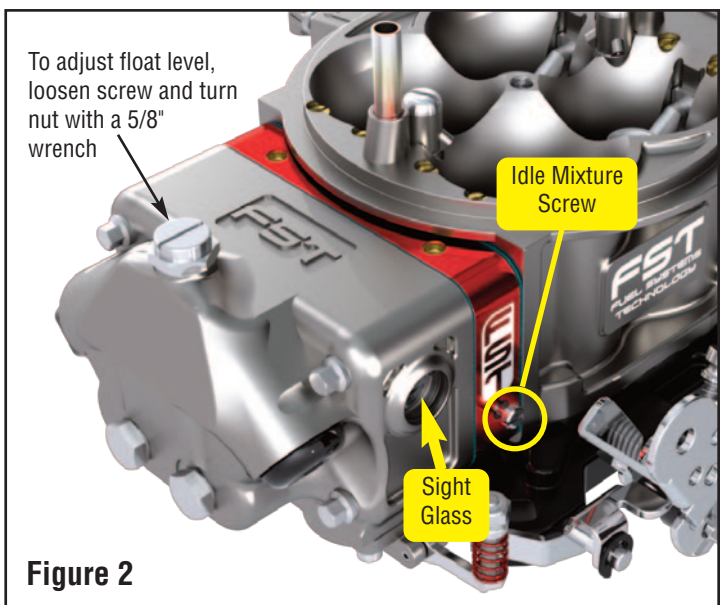

Figure 2
9. If you have access to a manifold vacuum gauge, set the four mixture screws (see Figure 2) to attain the highest manifold vacuum reading with the engine idling. It is not necessary that all four screws be at the same exact number of turns but they should be close. Without a manifold vacuum gauge, you will just have to manually make adjustments until you get the best possible idle. Make adjustments in increments of about 1/4 turn each. Turning the screws in (clockwise) increases the leanness of the mixture. Backing them out richens it. By adjusting the screws you should be able to smooth out the idle to a desired level. If three of the screws are out too far, turning in the fourth one may have no effect. If the rpm goes up when turning a screw, back it off until idle comes down. If the idle drop is too much, then the mixture is too lean and the screw needs to be turned back out.